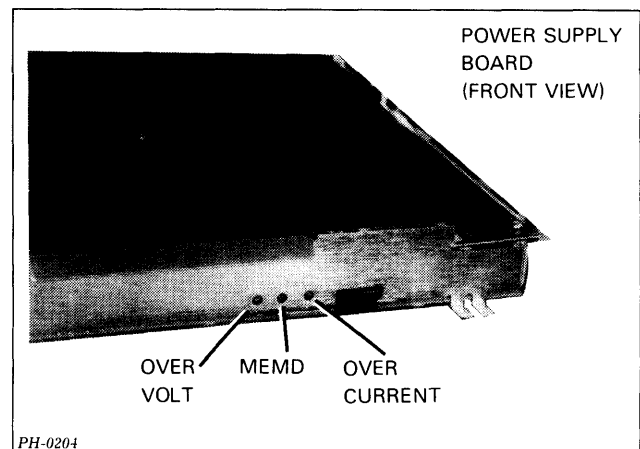

Figure 6.2 Power supply board indicator lights
The 16-slot chassis has three additional indicator lights which give further status information. These lights are located on the front of the power supply board as shown in Figure 6.2.
2. Check the indicator lights on the front end of the power supply board (see Figure 6.2). If they are all out, go to "Voltage Checkout"; otherwise, turn the power off and then on again. If any of the lights turn on again, follow the procedure below for the lights which are on. Whenever you replace a unit, repeat this step.